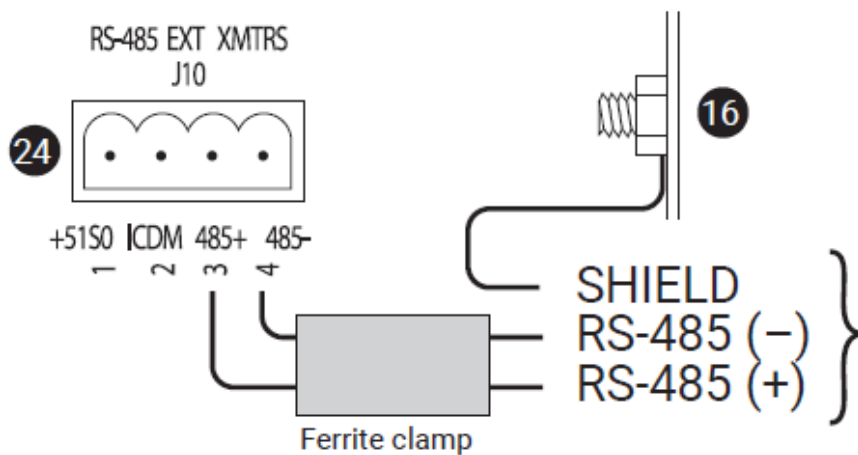

Fig.4
- a. A ferrite clamp (or bead) should be used on large networks as it will help to further absorb any interference. But it is important that it be positioned correctly at the panel end of the circuit, close to the termination but not over the shield. Fig.4